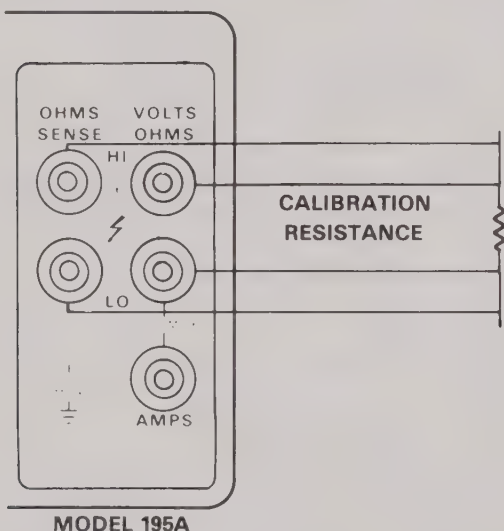
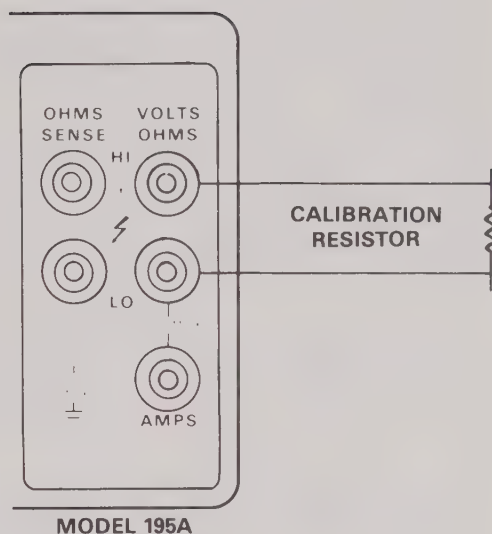

Figure 7-3. Connections for Calibration of 20 Ω and 200 Ω Ranges
Figure 7-4. Connections for Calibration of 2k Ω Through 20M Ω Ranges
2. Connect the calibration resistance to the VOLTS OHMS terminals. See Table 7-5 for recommended values. Use the 4-terminal connections shown in Figure 7-3 for calibration on the 20 Ω and 200 Ω ranges. The 2-terminal connections shown in Figure 7-4 may be used for all ranges if zero is left enabled.